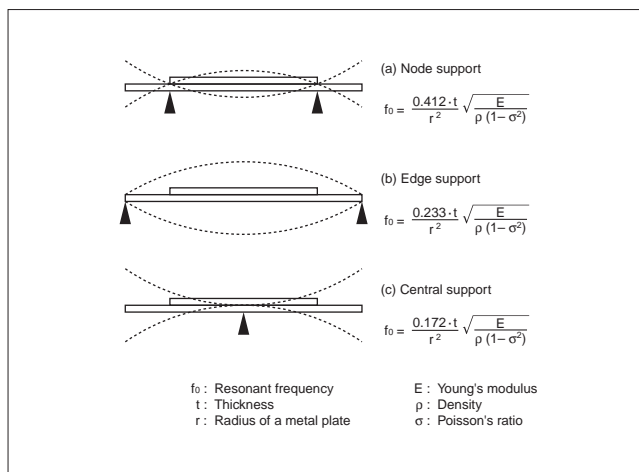
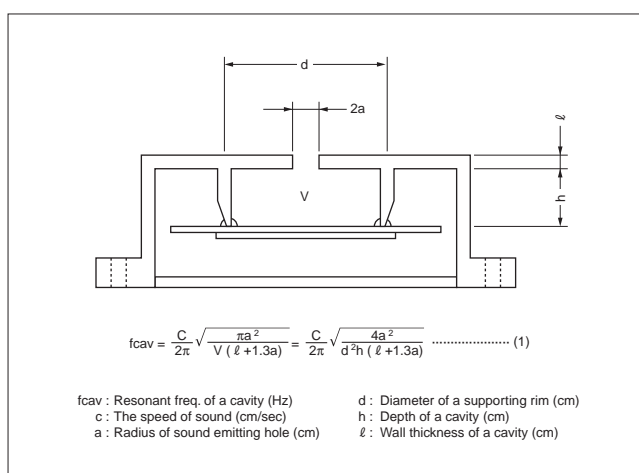

Fig. 3 Supporting Method
Fig. 4 Sectional View of A Cavity
In general, man's audible frequency range is about 20 Hz to 20kHz. Frequency ranges of 2kHz to 4kHz are most easily heard. For this reason, most piezoelectric sound components are used in this frequency range, and the resonant frequency ( $f_0$ ) is generally selected in the same range too. As shown in Fig. 3, the resonant frequency depends on methods used to support the piezoelectric diaphragm. If piezoelectric diaphragms are of the same shape, their values will become smaller in the order of (a), (b) and (c). In general, the piezoelectric diaphragm is installed in a cavity to produce high sound pressure (Fig. 4). The resonant frequency ( $f_{cav}$ ) of the cavity in Fig. 4 is obtained from Formula (1) (Helmholtz's Formula). Since the piezoelectric diaphragm and cavity have proper resonant frequencies, ( $f_0$ ) and ( $f_{cav}$ ) respectively, sound pressure in specific frequencies can be increased and a specific bandwidth can be provided by controlling both positions.
Fig. 9 shows a typical application of the self drive method. The piezoelectric diaphragm provided with feedback electrode shown in Fig.9 (i) is involved in the closed loop of a Hartley types oscillation circuit. When the frequency is closed to the resonant frequency, the circuit satisfies oscillating conditions, and the piezoelectric diaphragm is driven with the oscillating frequency. Fig. 9 (ii) shows a simple oscillating circuit consisting of one transistor and three resistors. In general, the node support shown in Fig. 3 (a) is popular in the self drive method. Proper resonance of the piezoelectric diaphragm by the node support provides stable oscillation with high mechanical Qm of vibration but also a single high pressure tone.
In addition to the previous methods based on the electrical circuit, it is also possible for Piezoelectric sound components to raise up S.P.L. by using a resonant cavity based on Helmholtz's Formula in Fig. 4 of Page 3. Concerning these items, please feel free to contact the sales division.